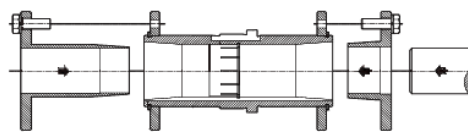

Figure 6 – Short Shaft Bushing and Output Hub Assembly
- The long bushing is designed to be installed from the side of the reducer opposite the driven equipment as shown in Figure 6. The long bushing when properly installed is designed to capture the end of the customer shaft that does not extend through the reducer. Normally the reducer would be mounted such that the input shaft extends from the side of the reducer opposite the driven equipment however the reducer design allows installation of the reducer to be mounted in the opposite direction.
- Install the tapered bushing wedge into the hollow bore of the reducer from the same side as the long bushing will be installed. When installing the tapered bushing wedge into the reducer hub, install the flange end first so that the thin taper is pointing outwards towards the long bushing as shown in Figure 6. The wedge is properly installed when it snaps into place in the reducer hub.